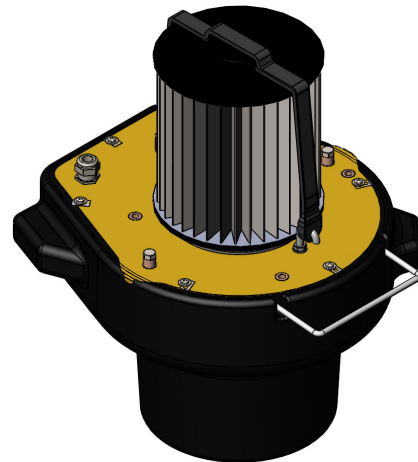

FIG. 11
- 11** Carefully install the GORE® CleanStream Pro HEPA Filter (C) onto the ring and then slip filter retainer strap (F18) to secure. [FIG 11]